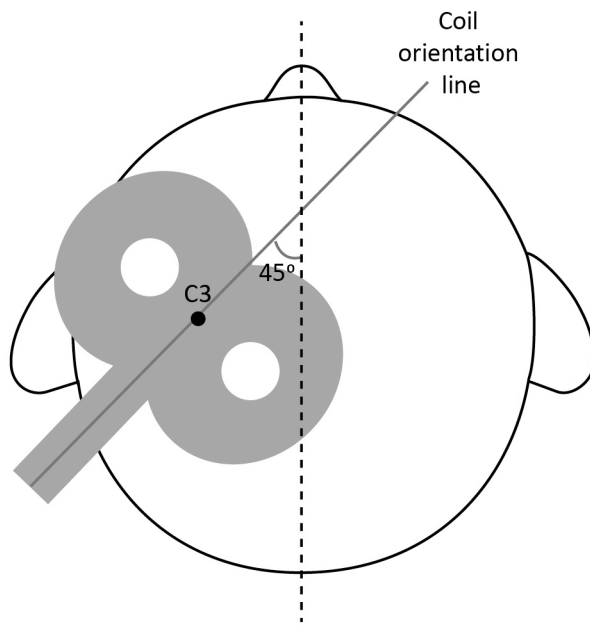

Fig. 49. Correct coil positioning for MT-detection.
11. Place the coil **on C3** at 45° in relation to horizontal plane, with the arrow pointing toward the upfront and the handle downward and backward (Fig. 49).